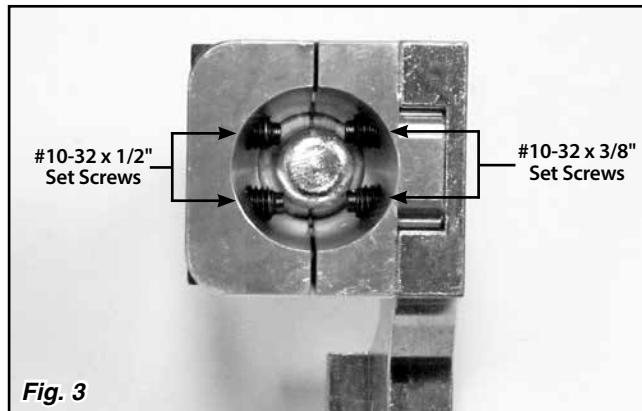
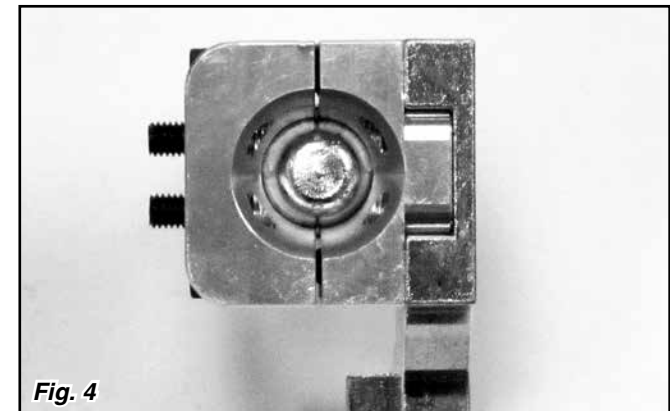

Fig. 3
Fig. 4
Step 1: Turn the AxiShift Bolt-on Shift Lever Adapter upside down. Use a 3/32" Allen wrench to back out all four of the #10-32 set screws far enough that they are no longer protruding into the center cavity at all. **Fig. 3 & Fig. 4**